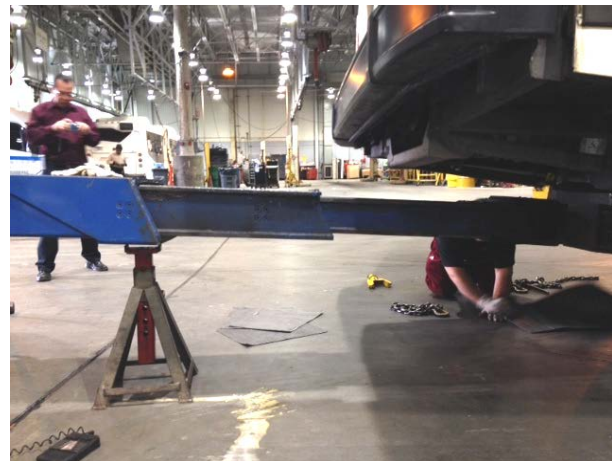

FIGURE 63
9. Install a jack stand under the stinger arm for support and safety purposes and then lower the stinger arm so it rests on the jack stand (Figure 63). The tow cans or blocks can be removed from under the drive axle wheels.